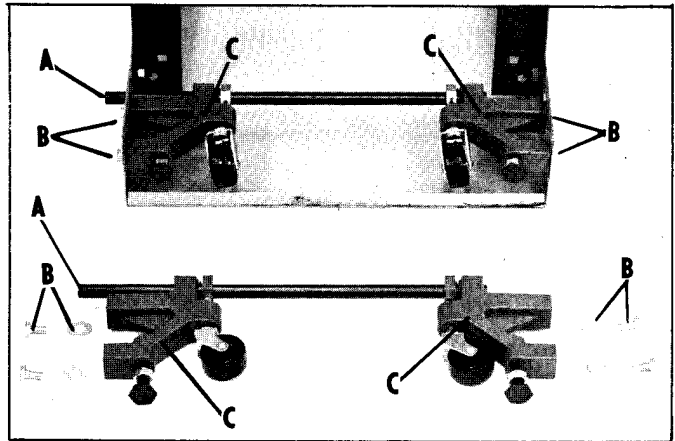

Fig. 5
7. Insert the foot lever end of the shaft (A) up and through the inside of the large hole in the cabinet, as shown in Fig. 5.
8. Fasten the four caster brackets (C) to the stand using the eight flat washers and hex head cap screws (B), as shown in Fig. 5.